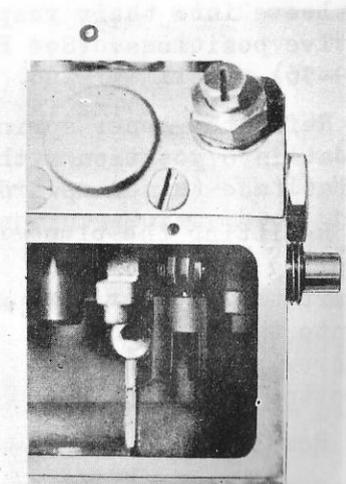

Fig. 9-56
4) Apply the same procedure to the 2nd, 3rd and 4th barrel for refitting the control rack and control sleeve into their respective positions. (See Fig. 9-56)
(6) Refit the upper spring seat into position with its flat face turned upward.
(7) Refitting the plunger spring into position. Insert the plunger spring into the body through the screw plug hole on the bottom of the pump body.
(8) Reassembling the plunger